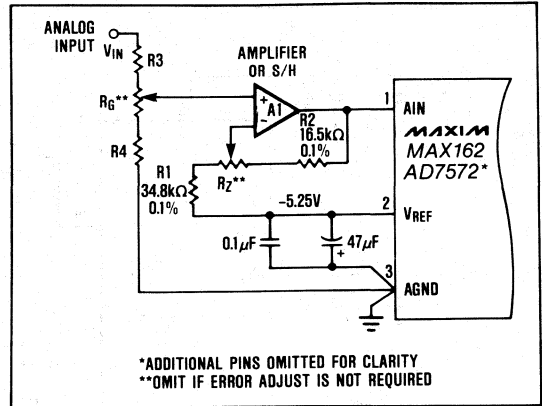
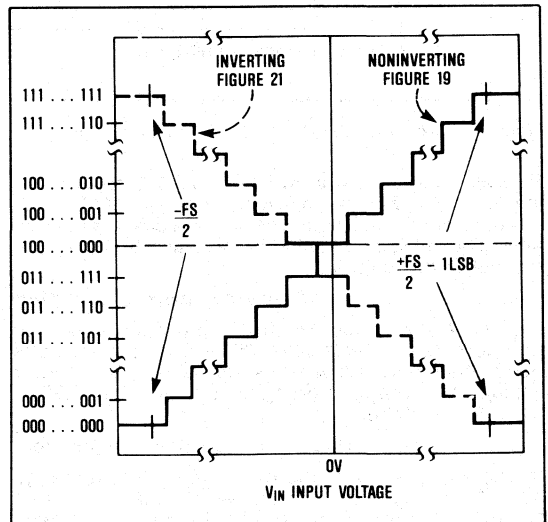
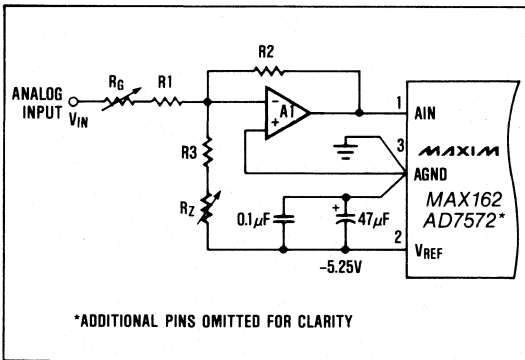

Figure 19. MAX162/AD7572 Non-inverting Bipolar Operation
Figure 20. Ideal Input/Output Transfer Characteristic for the Bipolar circuits in Figures 19 and 21.
Figure 21. MAX162/AD7572 Inverting Bipolar Operation
**Table 5. Resistor and Potentiometer Values Required for Offset and Gain Adjustment of Figure 19**
Figure 19 shows the bipolar operation in the non-inverting mode, where the output coding is offset binary. Figure 20 shows the ideal transfer function for this mode.
Figure 21 shows the bipolar operation in the inverting mode, where the output coding is complementary offset binary. Figure 20 shows the ideal transfer function for the circuit in Figure 21.
For Non-inverting (Figure 19) 1000 0000 0000
For inverting (Figure 21) 0111 1111 1111
For Non-inverting (Figure 19) 1111 1111 1110
For inverting (Figure 21) 0000 0000 0001
Table 6. Resistor and Potentiometer Values Required for Offset and Gain Adjustment of Figure 21